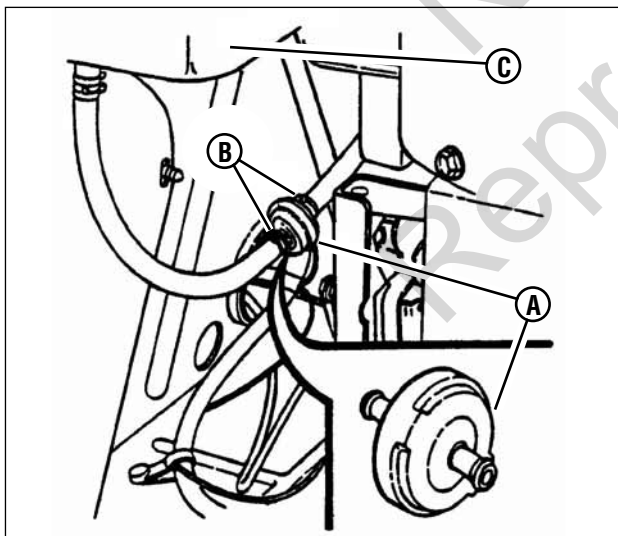

Figure 30: Replacing the fuel filter
3. Remove the hose clamps (**B, Figure 30**) from the fuel filter (**A**).